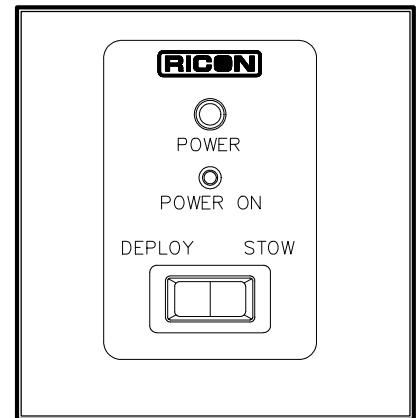

FIGURE 2-1: TYPICAL CONTROL PANEL
The ramp is designed to operate with a control panel similar to that shown in **Figure 2-1**. It is normally installed in the driver area of the vehicle. The ramp control panel will typically have a power on/off switch, a power on indicator light, and a three-position ramp control switch. The ramp receives power from the vehicle when the power on/off switch is activated and the interlock conditions are met. The control panel can then transmit deploy or stow signals to the ramp hydraulic system.
- d. Locate the strap on the edge of the ramp (refer to Figure 2-1 in chapter II).